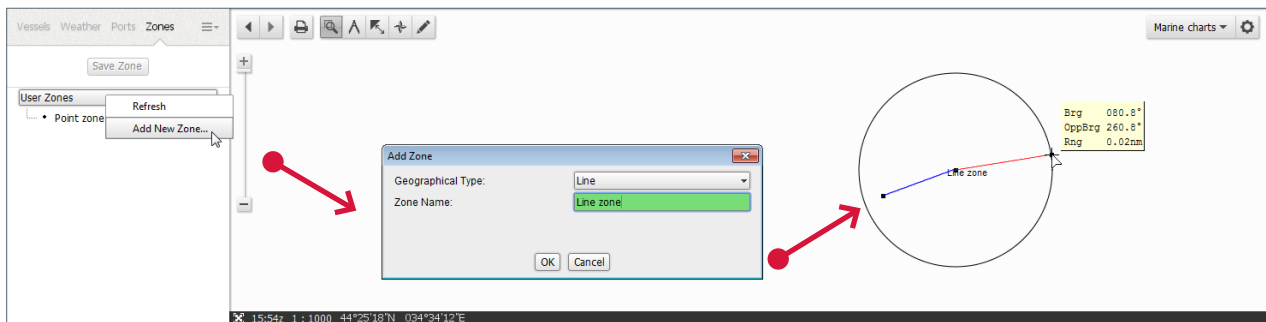

Figure 44. Creating Line Zone
- › Right-click the **User Zone** item in the tree view at the left and choose the **Add New Zone** item from the pop-up menu. The **Add Zone** window appears. (see "Figure 44. Creating Line Zone" on page 40)